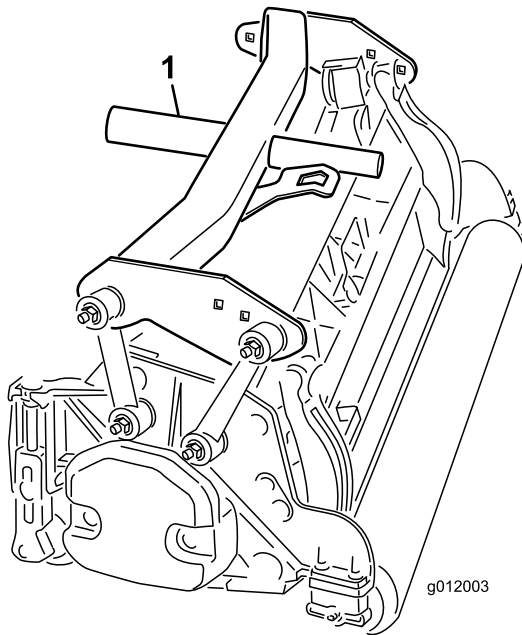

Figure 18
- Position the rear carrier frame (Figure 18) onto the rear cutting unit.